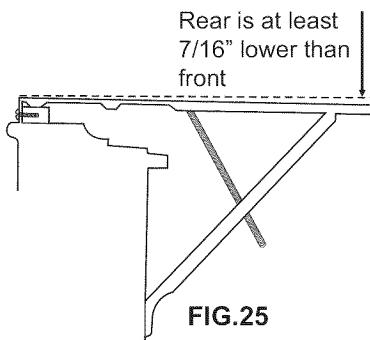

FIG.25
- A projection below the base of the air conditioner will require the rear of the platform to be $7/16$ " lower than the front to create the $3/16$ " slant from front to rear (FIG.25).